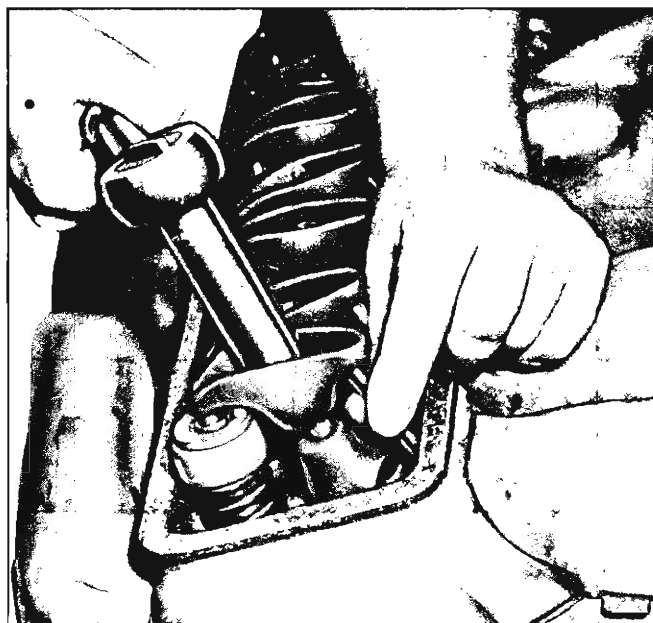

Fig. 7V--Valve Adjustment
- b. Valve adjustment is made by backing off the adjusting nut (rocker arm stud nut) until there is play in the valve push rod and then tighten nut to just remove all push rod to rocker arm clearance. This may be determined by rotating push rod with fingers as the nut is tightened (fig. 7V). When rod does not readily move in relation to the rocker arm, the clearance has been eliminated. The adjusting nut should then be tightened an additional 1 turn to place the hydraulic lifter plunger in the center of its travel. No other adjustment is required.